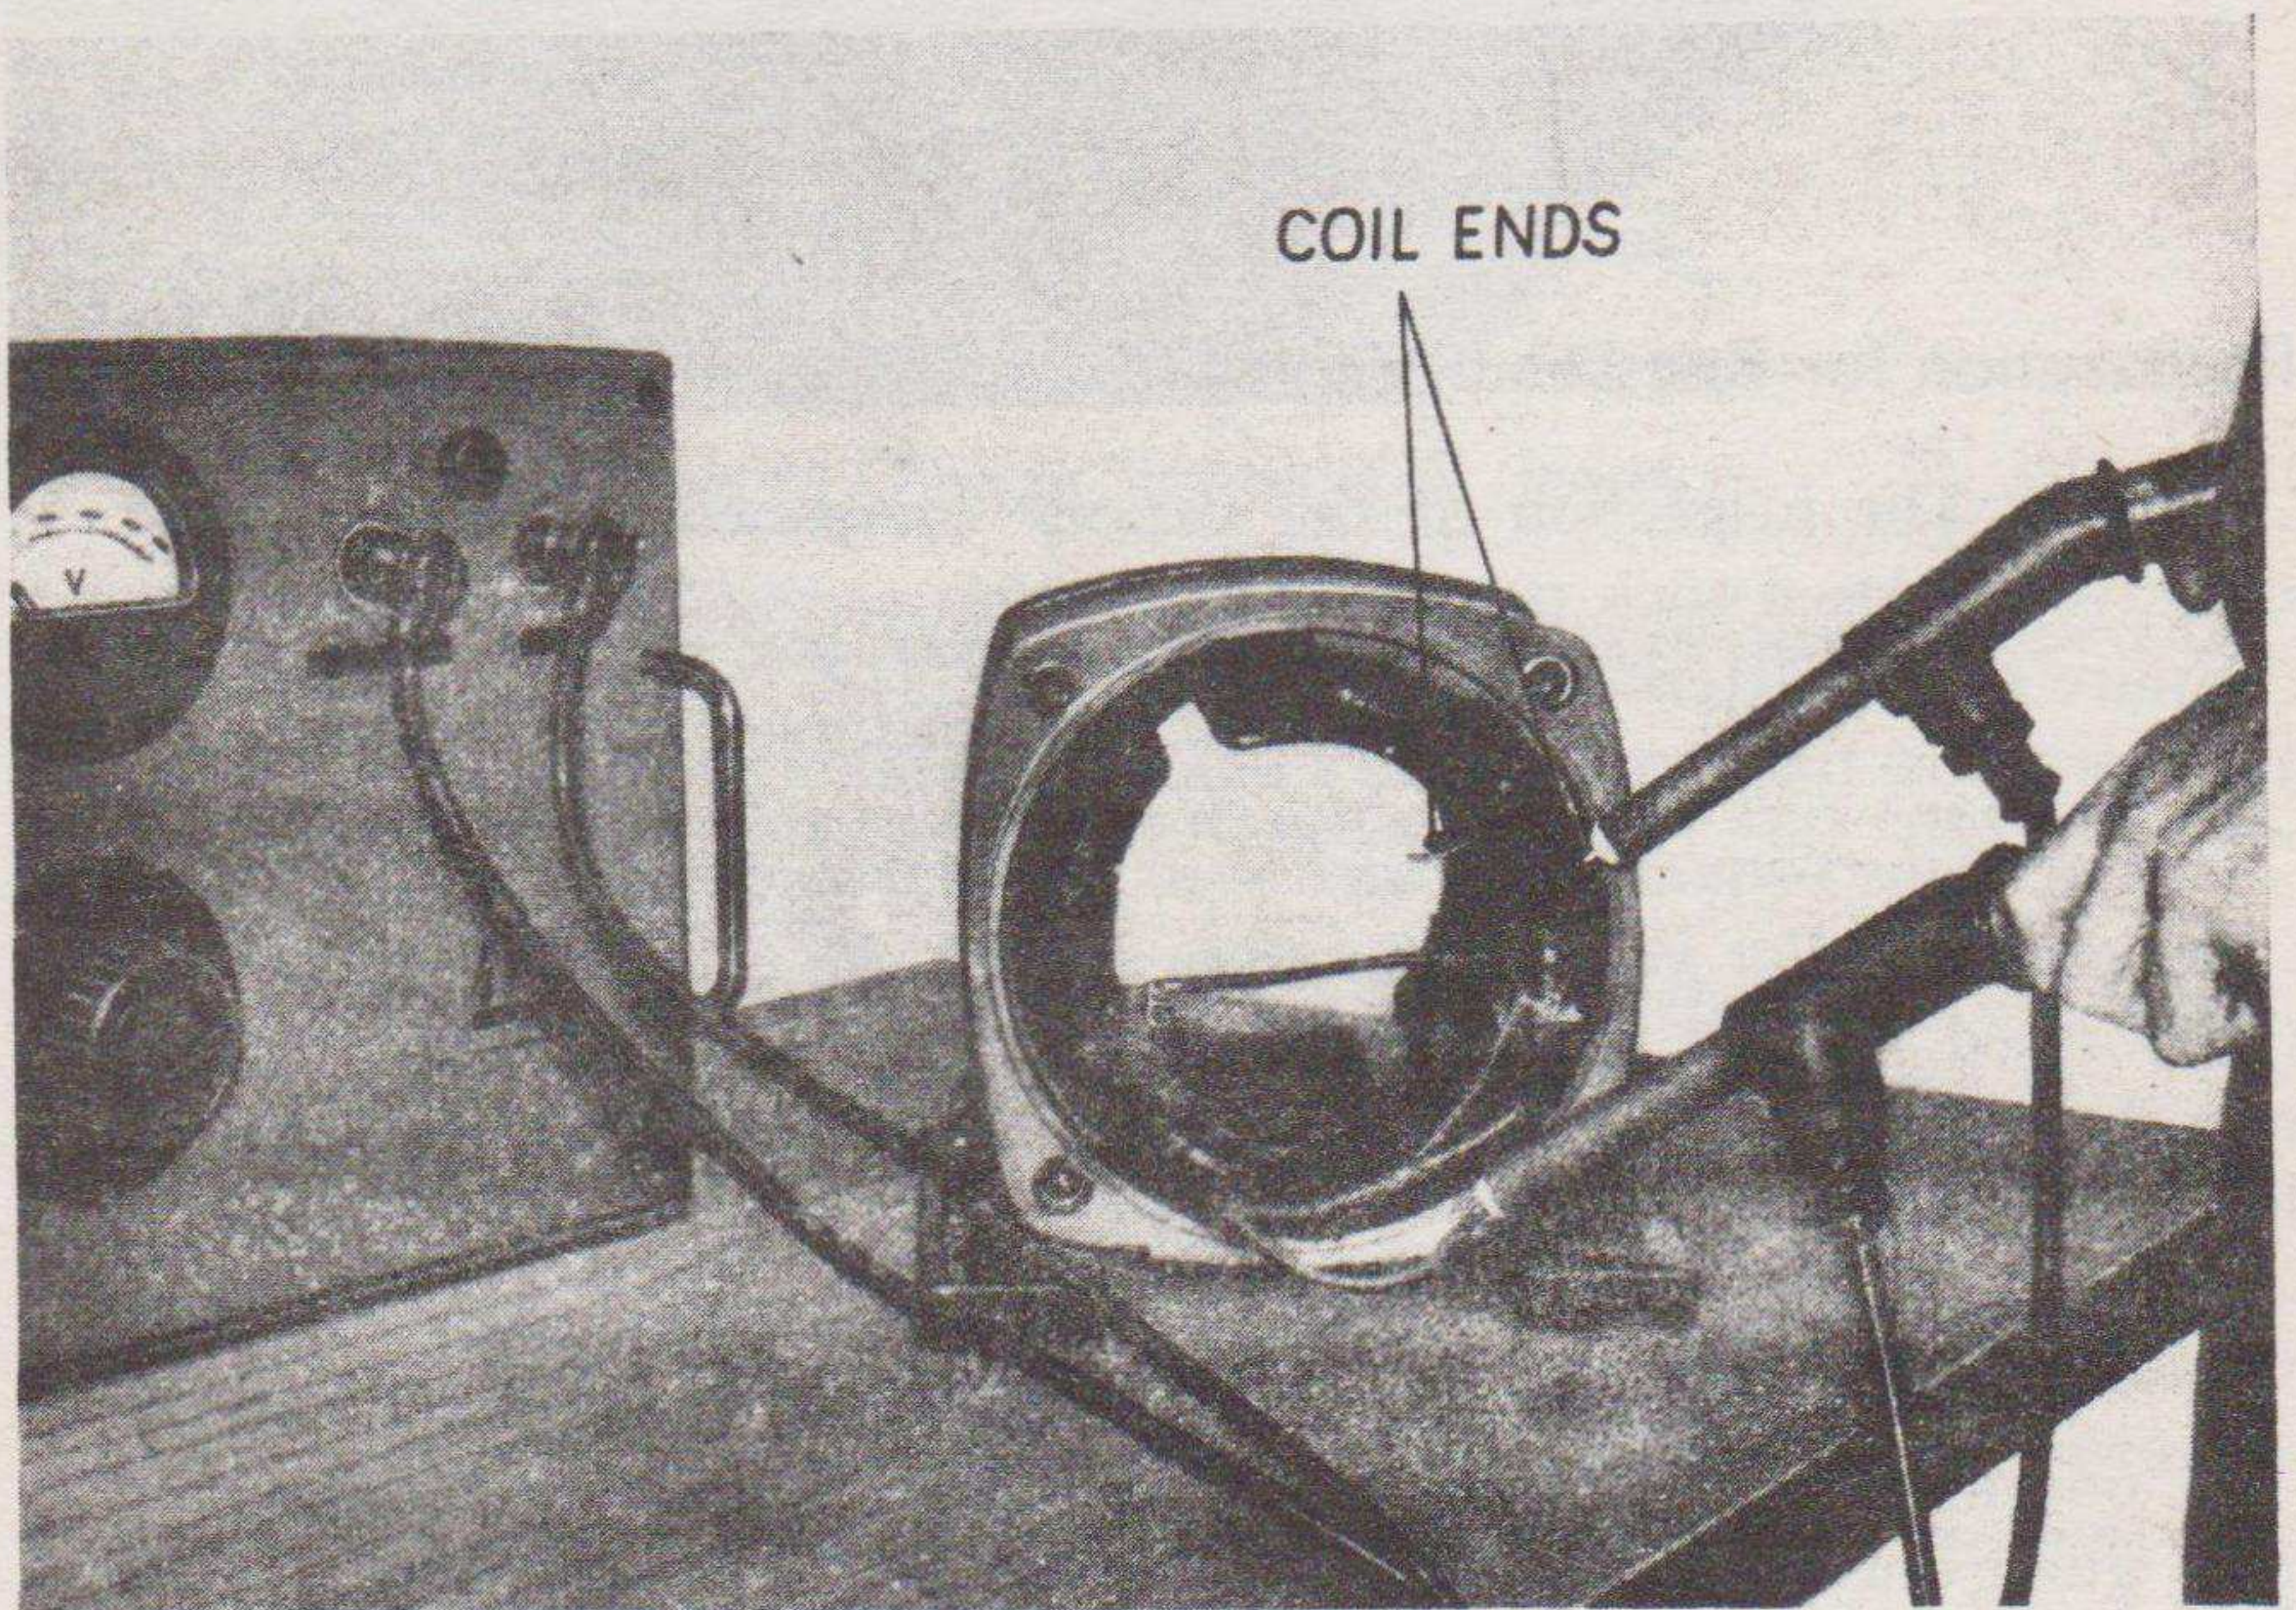

Figure 26. Testing individual field coils.
- (1) *Short circuit.* Fig. 26. A short-circuited field coil may be located by using an ohmmeter. (The resistance of each coil is approximately .80 ohm.) A short circuit can be located, also, by applying a low voltage across the entire winding and checking the voltage on each coil. A shorted coil will show less voltage drop than a coil which is not shorted. Break the taped field coil connectors to test individual coils.
- (3) *Open field circuit.* To test for an open field circuit, use a test lamp or continuity meter. Disconnect the two field leads and place one test prod on each of the leads. If the lamp does not light or there is no reading on the meter, the circuit is open (figs. 26, 28).